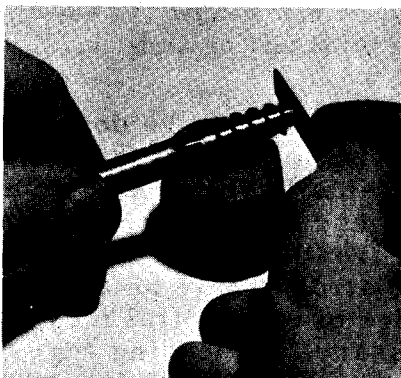

Fig. 2. Truing cutting edge
1. True cutting edge with long axis of borer (Fig. 2).
True cutting edge. If cutting edge undulates when held horizontally at eye level and rotated, it should be trued. Place a few drops of oil on flat side of thin edge of India stone. With bit held as shown in Fig. 2 and flat side of stone at right angles to the long axis, lightly pass stone to and fro across cutting edge, slightly rotating bit at each pass. Repeat until true.